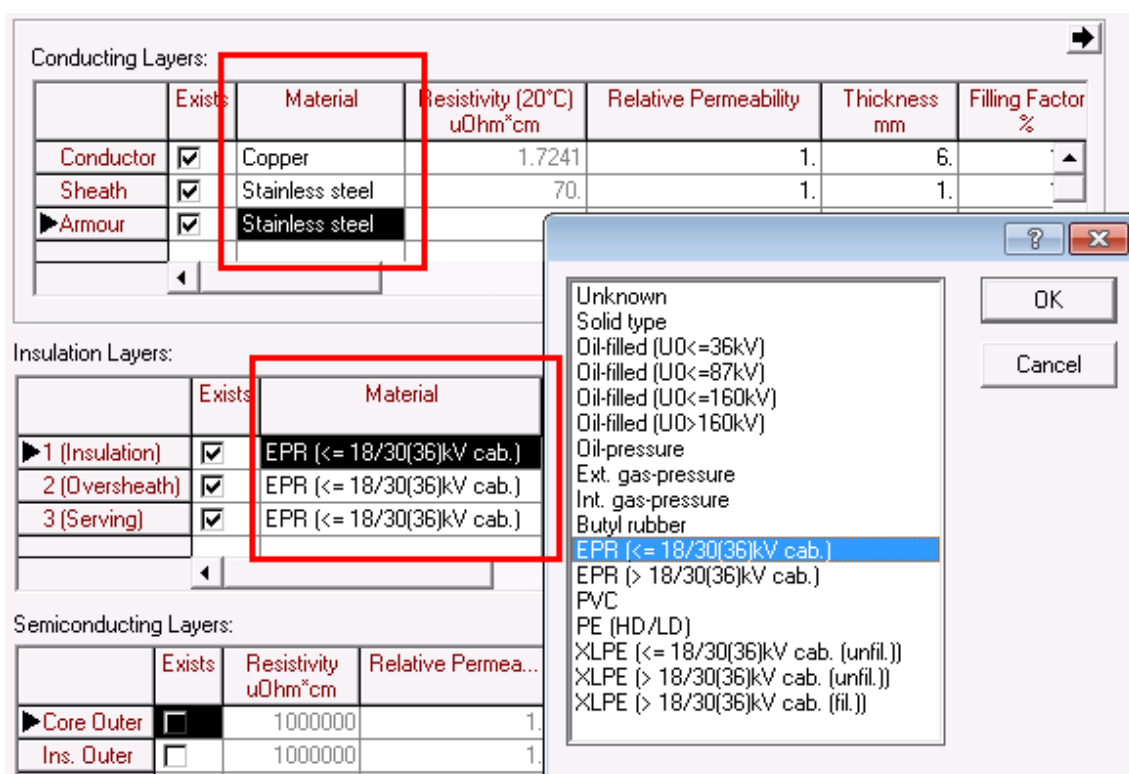

Figure 15.5: Material Selection
- Material selection in accordance with IEC60287 (see Fig. 15.5)